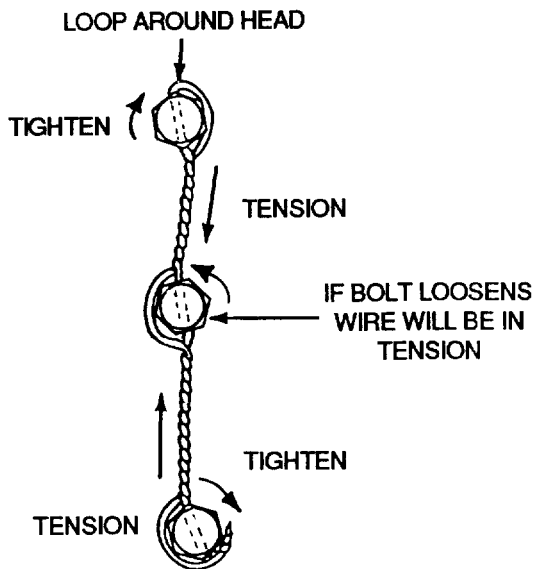

Figure 2. Proper Installation of Double Twisted Lockwire
e. Parts shall be lockwired in such a manner that the lockwire shall be put in tension if the part begins to loosen (Figure 2).